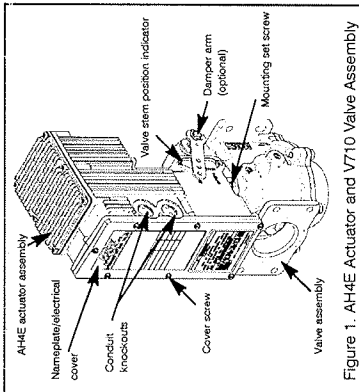

Figure 1. AH4E Actuator and V710 Valve Assembly
- Check to ensure that the mounting gasket, if applicable, is in the proper position, clean and without damage. Position the actuator to operate the valve (and damper if appropriate). Secure actuator with the three mounting set screws. Tighten set screws to 80 ± 5 in.-lbs [9.0 ± 0.5 Nm] using a 5/32" hex key wrench. (See Figure 1)